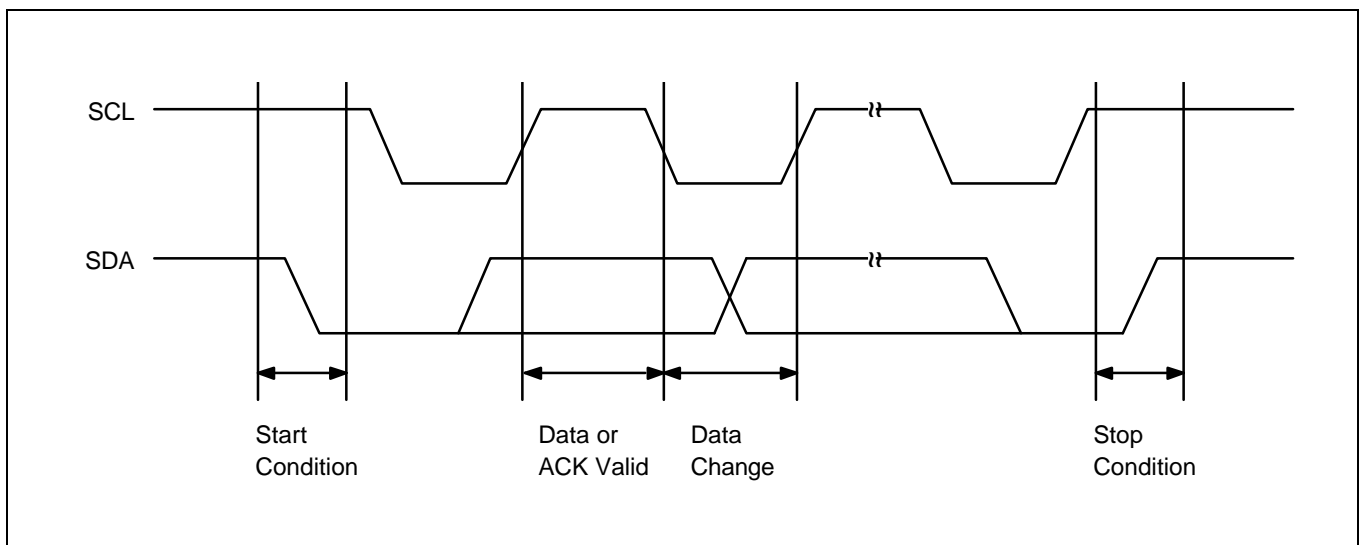

Figure 7-7. Data Transmission Sequence
- **Stop condition:** A stop condition is initiated by a Low-to-High transition of the SDA line while SCL remains in High level. All bus operations must be completed by a stop condition (see Figure 7-7).